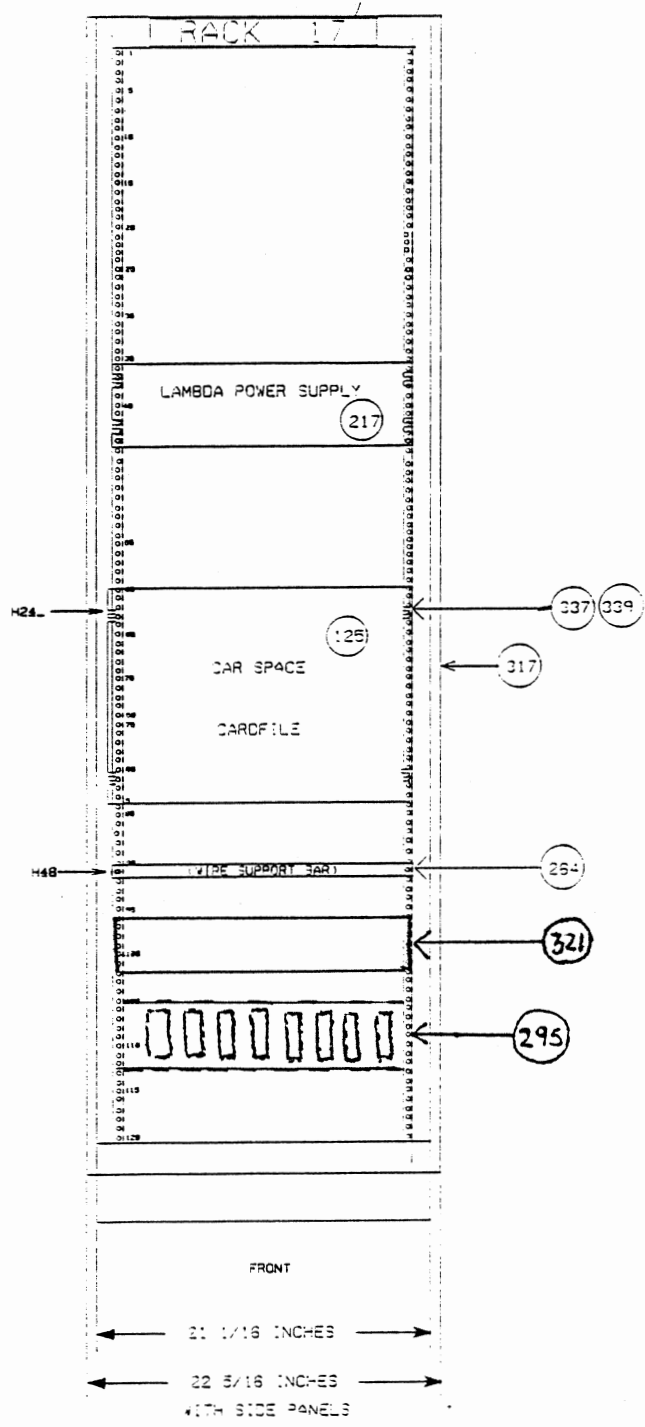

Figure 1-2: Carspace System Rack
The Tower Equipment consists of the **Car Space Rack** (Figure 1-2). This is the signal processing center for the total system and is interfaced with the wayside signal input circuitry, and the RTP A/D gate card. The rack contains an analog electronics cardfile, consisting of Phase Detector PCB's, an address board, a driver board. In addition, the rack contains a Lambda power supply assembly. Track signal data is received from the wayside circuitry and translated to an appropriate analog signal level to be sent to the external RTP A/D converter. The digital output of the A/D is then sent to the host computer for interpretation.
2.1 CAR SPACE RACK (Refer to Figure 1-2)